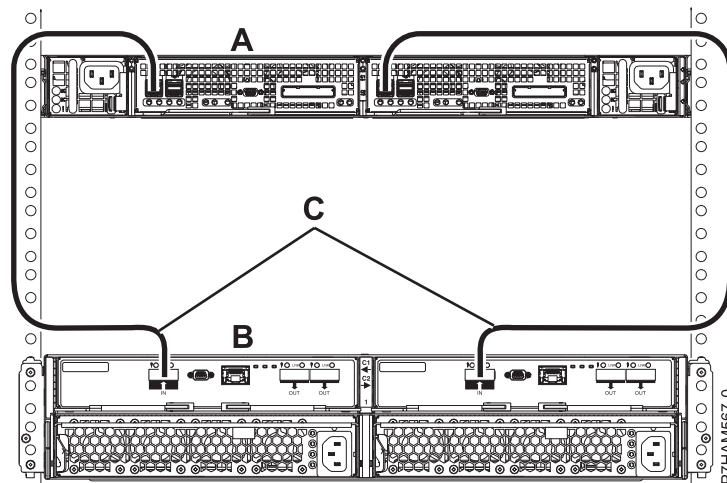

Figure 33. Mode 1 connection of one 5887 disk drive enclosure by using EX cables to a PCIe storage enclosure
- m. Perform the mode 1 connection of one 5887 disk drive enclosure (B) by using EX cables (C) to a PCIe storage enclosure with support for SAS disk drawers (A) as shown in Figure 33.
- Each internal adapter in the PCIe storage enclosure (A) has access to the other adapter and to all disk drive bays.
- Both EX cables (C) from the same 5887 disk drive enclosure must be attached to the same numbered SAS port on the PCIe storage enclosure as shown in Figure 33.